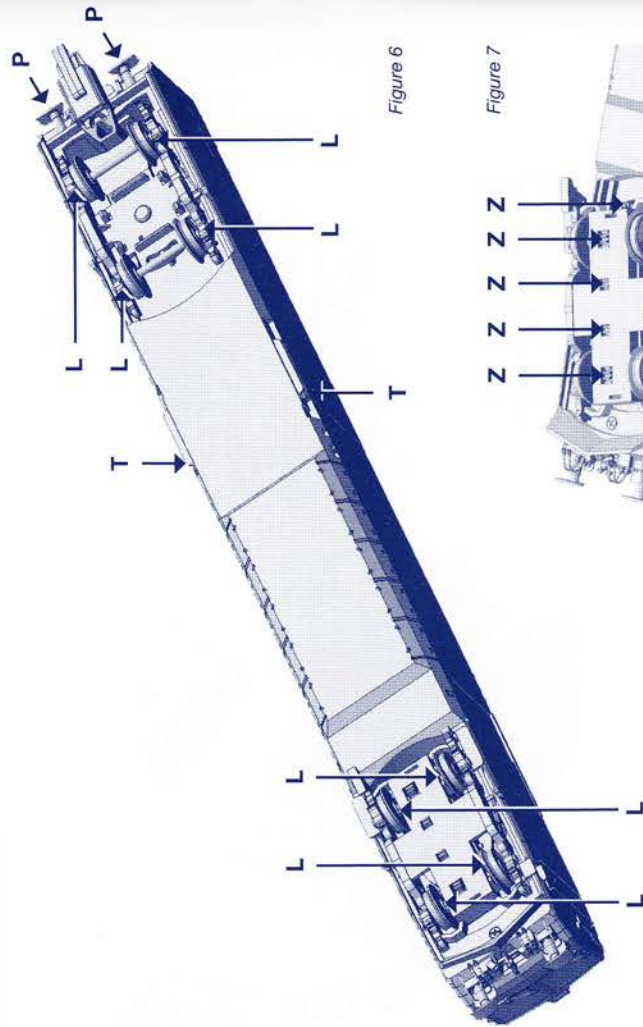

Figure 6
In order to ensure that your model functions correctly over a long period the railcar should be maintained at regular intervals. The model need not be opened to do this. It is perfectly sufficient to turn the model over on a soft base as shown in Fig. 6. Be careful not to damage the roof parts or the pantographs. Clean the wheel contacts using cotton wool tabs soaked in spirits and then clean the wheels. However, please do not turn the drive wheels by hand in any circumstances. After cleaning please use a drop of machine oil to lubricate the bearing points (L) shown in the figure. It is advisable to carry out maintenance work after approximately 30-40 hours of operation.
Figure 6 see next page
Please place both thumb nails around the rear door area (T) as shown in (Fig. 6) to pull the car body slightly apart and at the same time apply slight pressure with the index finger around the rear buffer plates (P) to remove the car body completely from the running gear.